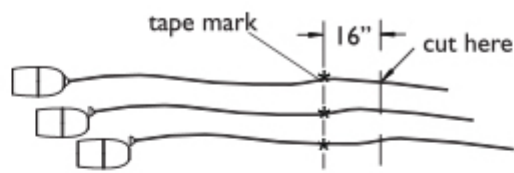

Figure 2
3. Measure an additional 16" from the tape marks and cut cords at this location. Discard excess wire. (Figure 2)